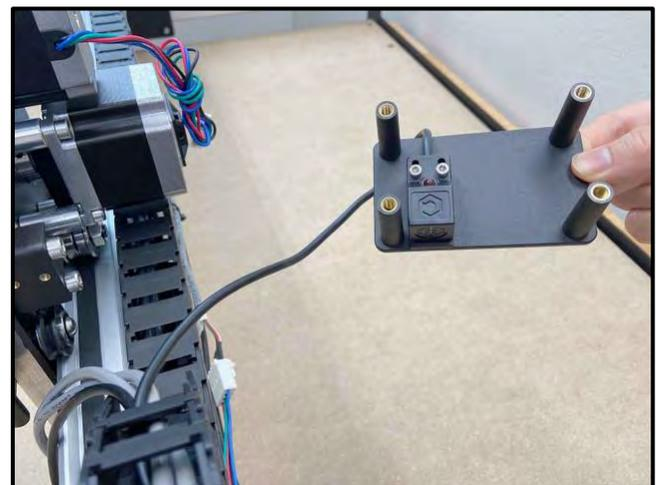

Figure 14
1. Install the Z-Axis proximity switch to the back side of the Z-Axis mount. See **Fig. 14**.